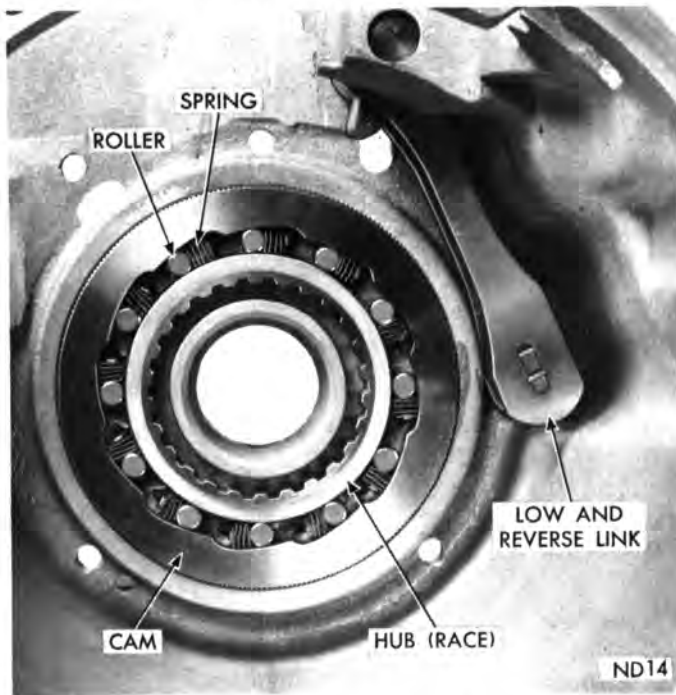

Fig. 96—Overrunning Clutch, Low and Reverse Band Link
(1) With transmission case in an upright position, insert clutch hub inside the cam. Install overrunning clutch rollers and springs exactly as shown in Figure 96.
A-727: Be sure long link and anchor assembly is installed, as shown in Figure 96 to provide running clearance for the low and reverse drum.